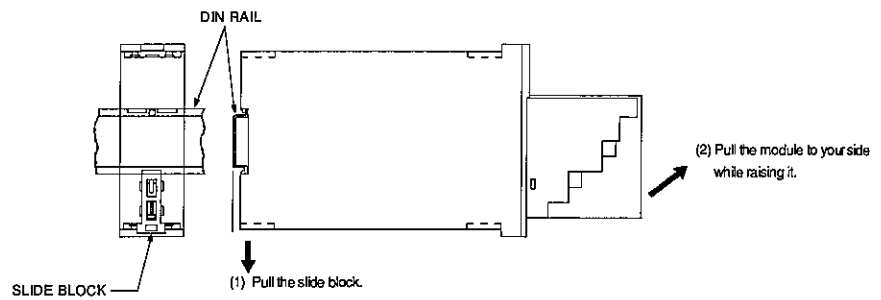

Fig.5-7
- (3) To remove the module, observe the instructions given in Fig.5-7.